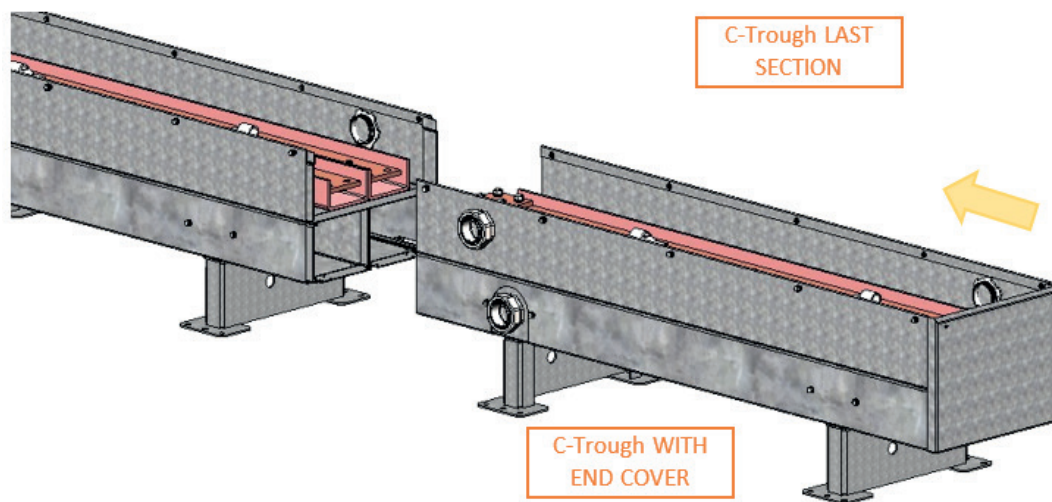

Figure 69. C-Trough Last Section
- **Step 7:** For the last B-Cab XXL interface C-Trough module which is a bit different, it has an end cover refer to Figure 69: